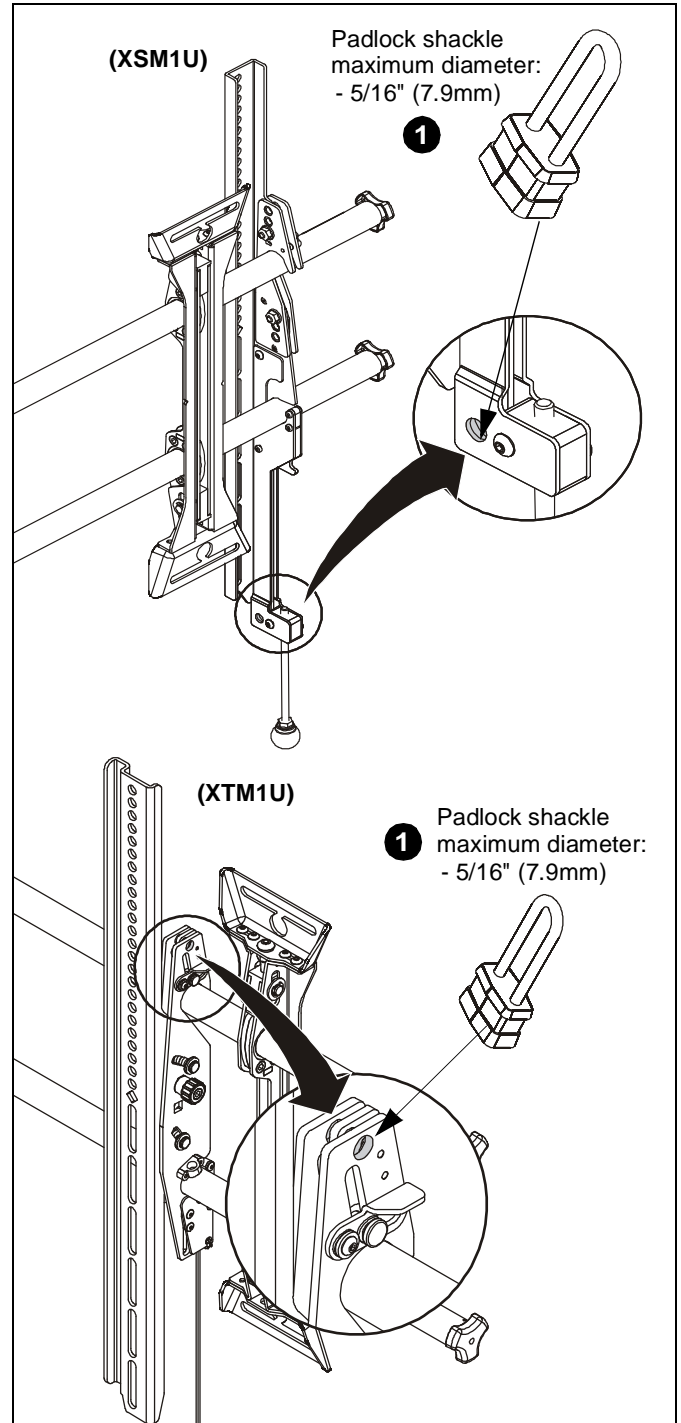

**Figure 18**
1. Lock screen interface brackets onto mount rails using one 3/8-16 x 3/4" set screw (P) on each interface bracket. (See Figure 18)